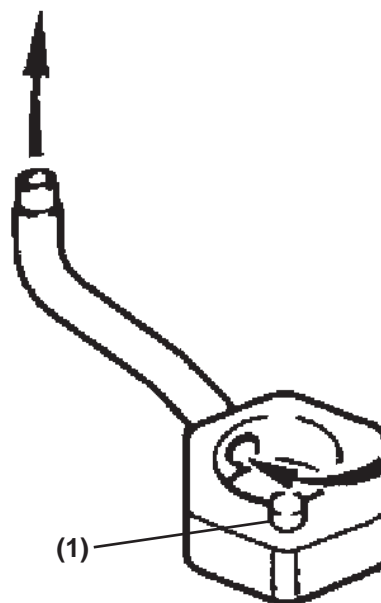

Figure 8-34
4. Inspect the oil nozzle **(Figure 8-34)** for damage, restrictions and clogs. If needed, replace the oil nozzle.
1. Align the oil nozzle pin **(Figure 8-34, (1))** with the pin hole in the cylinder block.